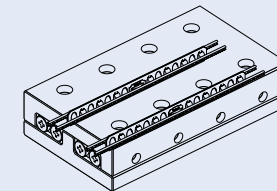

Fig. 17.6
- Gently move the table at a full stroke and make sure that the cylindrical roller at each end of the retainer does not hit the end screw of the track base within the stroke. If the roller hits the retainer end, repeat the above steps from the first. (See Fig.17.6)